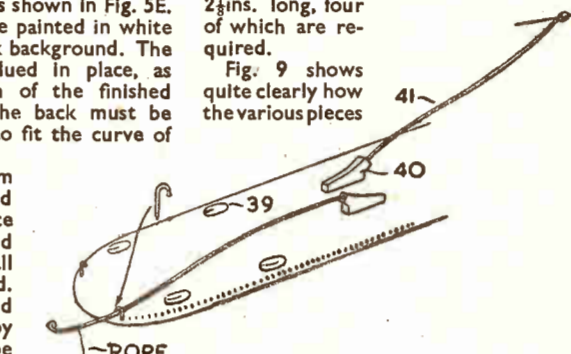

Fig. 7—Details of the roof
coloured. Their positions are dotted on piece 1. The eight ventilators No. 39 are rounded off and glued to the roof, as shown in Fig. 7. This sketch also shows pieces 40 and 41, which are glued side by side with the wire pieces facing in opposite directions. Four hooks can be made up from thin fret-pins, and inserted two at each end, as shown. When the arm is not in use, it can be hooked under one of these, and the rope, which is a piece of thread, is wound round a pin inserted in the side (1) near the stairs.